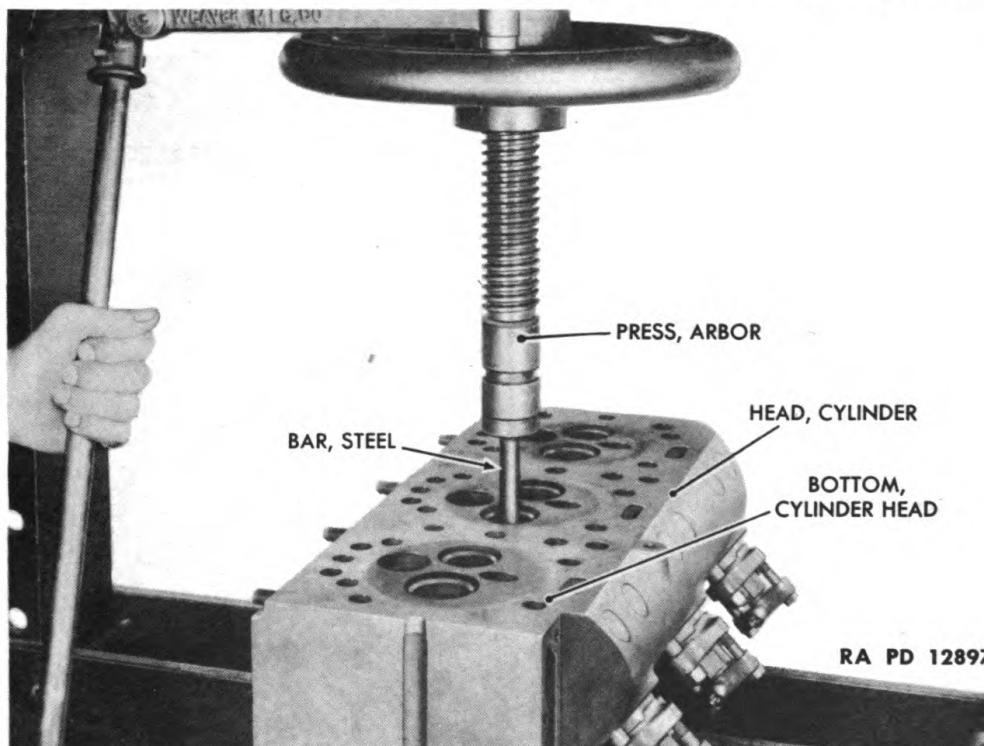

Figure 73—Pressing Out Intake Valve Guide
- (3) REMOVE INTAKE AND EXHAUST VALVE GUIDES (fig. 73).
(4) **REMOVE STARTING VALVE GUIDES** (fig. 73). Follow same procedure outlined above to remove starting valve guides.